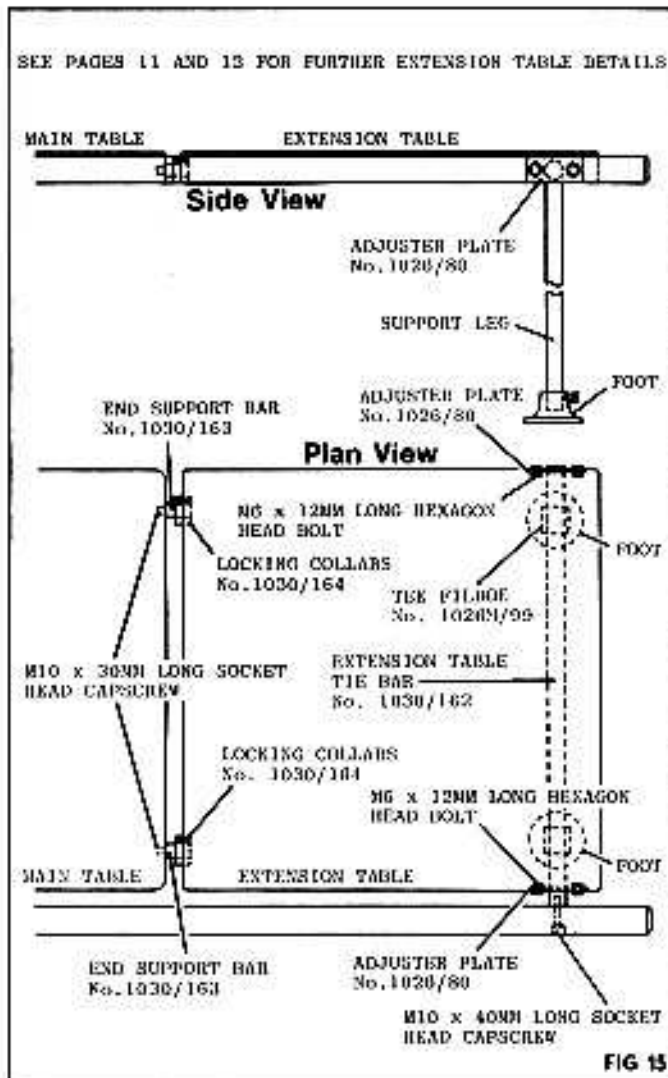

FIG 15
A sheet metal extension table can be supplied to fit to the right of the saw as shown in FIG.15. This table increases the capacity right of the saw to 50V (1280mm) between saw and rip fence.
3. Assemble as shown in FIG.15, ensuring that extension table top is level with main table top. When set, lock all screws and nuts.